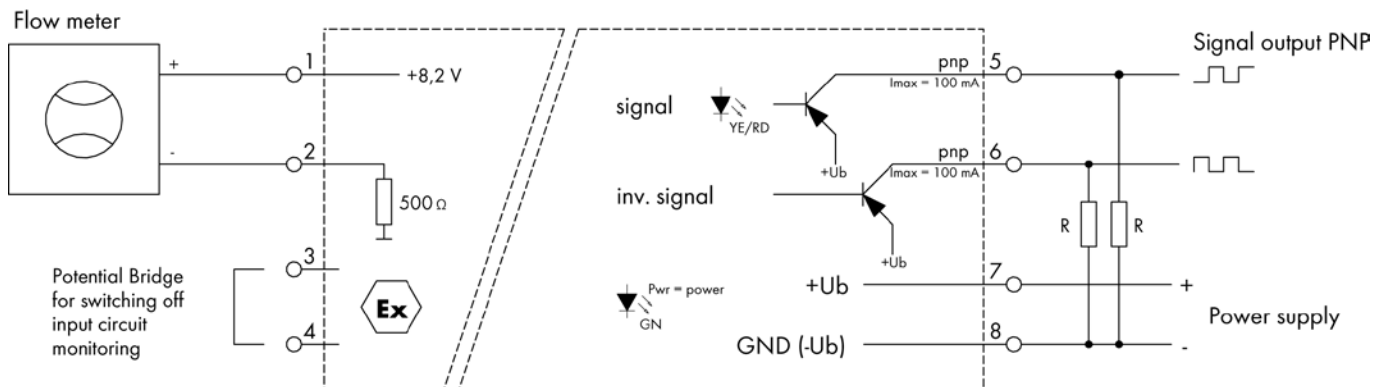
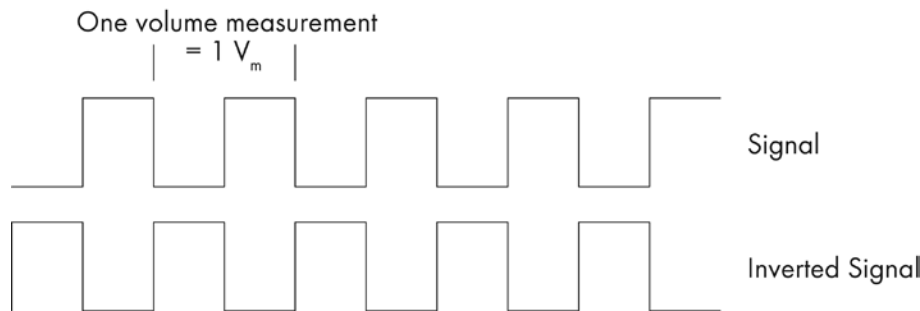

Figure 3: Circuit diagram of the isolated switching amplifier MK 13-P-Ex0/24VDC/K15
Figure 4: Signal output of the isolated switching amplifier
switching output signal (PNP signal). Normally the signal processor only needs the standard signal generated (see figure 3 and figure 4), the inverted signal is only processed in special cases. That is why the inverted signal is only shown in the circuit diagram as a dotted line.
**Note that the signal output of the isolated switching amplifier is a PNP signal (low signal = open output; high signal =  $U_b$ ). Problems may arise when the signal processor has high impedance inputs, especially in the higher range of flow rates. The signal edges become rounded, and the signal processor cannot detect the digital signal any more. In this case, insert a pull-down resistor with a resistance of approx. 2.2 – 4.7 k $\Omega$  parallel to the input of the signal processor (see figure 3; Resistor R).**